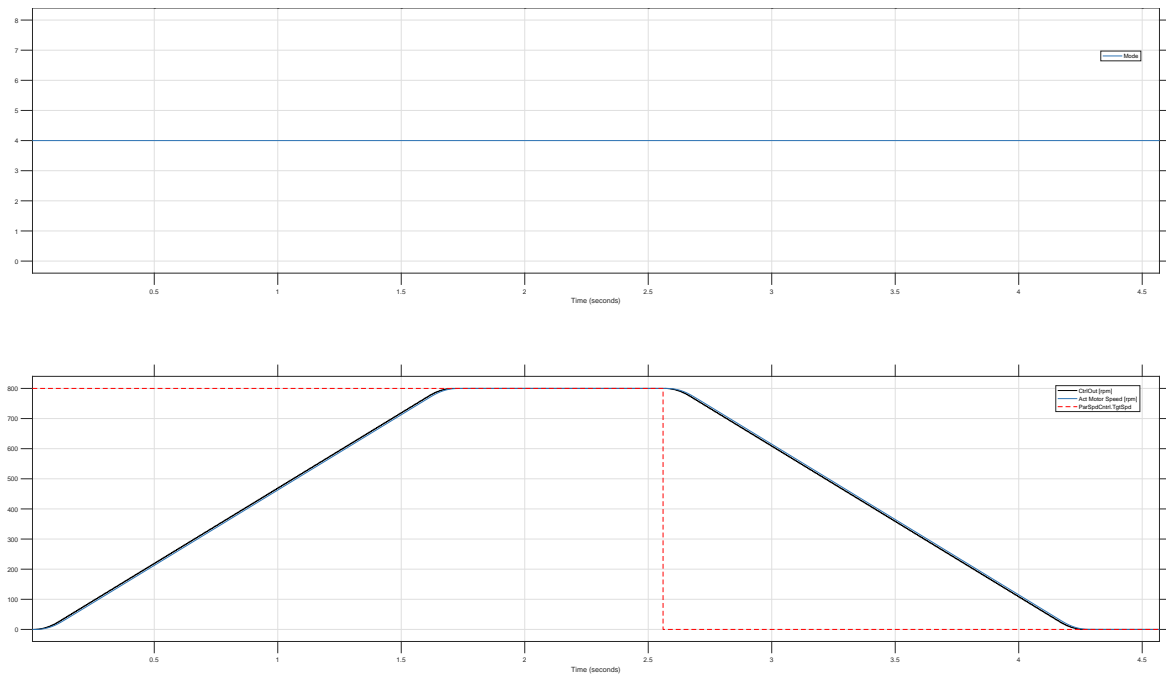

Figure 13: Frequency Drive with optimal set of controller parameters.
- Optimal set of controller parameters in figure 13: The lag error between set trajectory (black line) and motor actual speed (the blue line) is negligibly small, there is no over shoot and no oscillation. steady-state accuracy is very high.